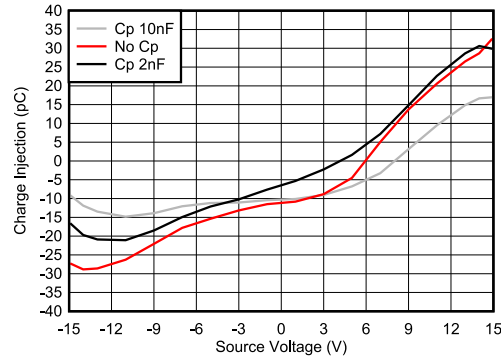

图 8-2. Charge Injection Compensation
The TMUX7234 contains specialized architecture to reduce charge injection on the source (S_x). To further reduce charge injection in a sensitive application, a compensation capacitor (C_p) can be added on the drain (D). This will ensure that excess charge from the switch transition will be pushed into the compensation capacitor on the drain (D) instead of the source (S_x). As a general rule of thumb, C_p should be 20x larger than the equivalent load capacitance on the source (S_x). 图 8-2 shows charge injection variation with different compensation capacitors on the drain side. This plot was captured on the TMUX7219 as part of the TMUX72xx family with a 100pF load capacitance.